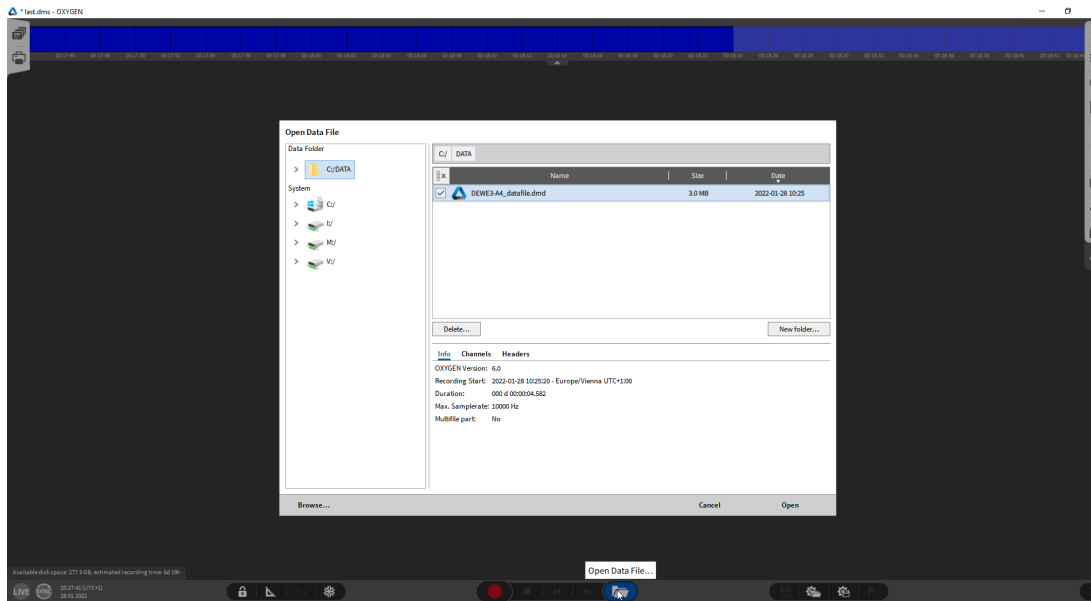

Fig. 26: Opening data file
1. Click on the file button, and select the corresponding file (see Fig. 26).